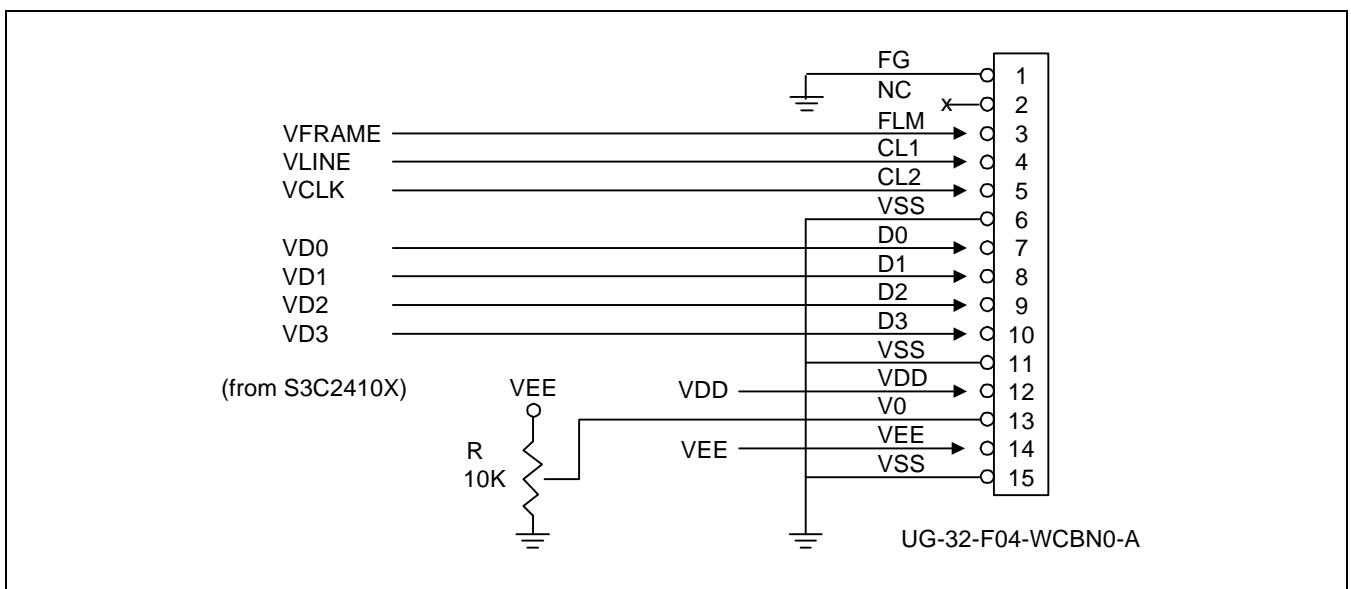

Figure 4-14. UG-32F04 Connection with S3C2410X (320x240 Mono STN LCD)
- UG-32F04 (320x240 mono STN LCD) from SAMSUNG DISPLAY DEVICES CO., LTD. (refer to Figure 4-14)